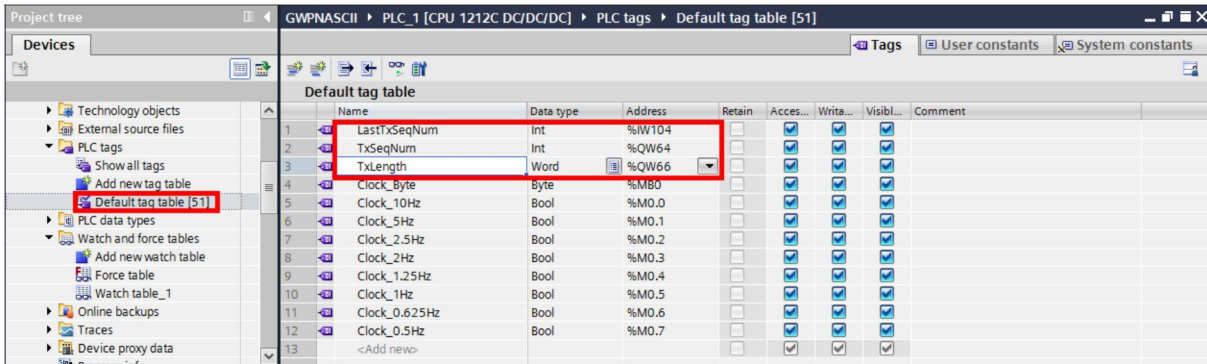

Figure 40 PLC Tag table
1. Add the tags shown in Figure 40 to organize the “Watch” table.